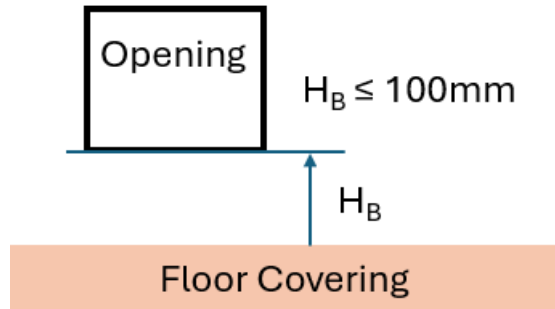

Figure 8: Opening Requirements for Mechanical Ventilation
- The lower edge of openings extracting air from the room shall not be more than 100 mm above the floor. (see Figure 8)